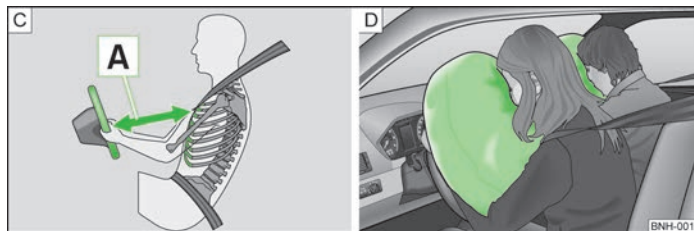

Fig. 117 Safe distance to steering wheel/inflated airbags.
If the airbags are deployed, the airbags are filled with a propellant gas and inflated in front of the driver and front passenger » Fig. 117 - [D]. The forward movement of the driver and of the front passenger is cushioned when they make contact with the fully inflated airbag and the risk of injury to head and chest is thus reduced.
- For the driver and front passenger, it is important to maintain a distance of at least 25 cm to the steering wheel or dashboard **A** » Fig. 117. Not maintaining this minimum distance will mean that the airbag system will not be able to properly protect you - hazard! The front seats and the head restraints must always also be correctly adjusted to match the body size of the occupant.